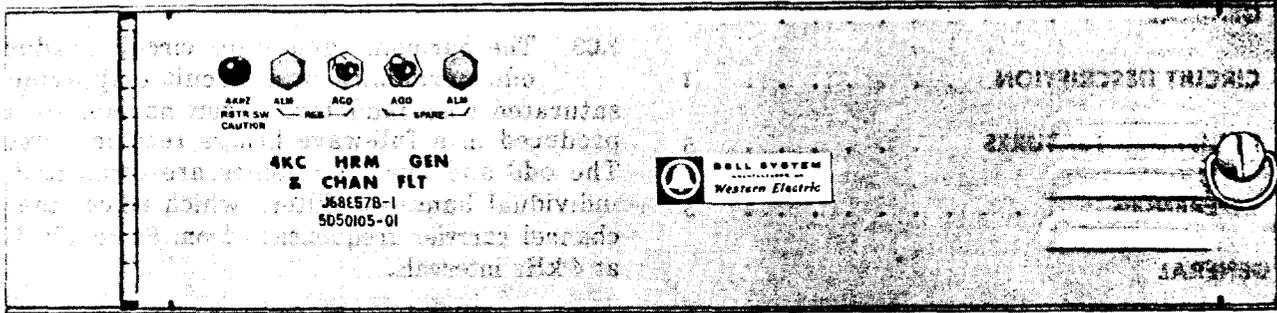

Fig. 1—J68857B Channel Carrier Generator and Filter Unit—Front View
2.01 The J68857B carrier generator and filter unit (Fig. 1) contains the following circuits:
3.01 The J68857B channel carrier generator and filter unit is 5-1/4 inches high and is designed to mount in a standard 19-inch duct-type bay. The unit has a front-to-back depth of 10-1/2 inches and is designed for back-to-back bays. A hinged front panel cover allows access to all individual modules for maintenance. The alarm lamps and alarm cutoff switches are mounted on the front cover. The 4-kHz restoration switch (RSTR SW) may be mounted in the top left corner of the panel (see Fig. 1).